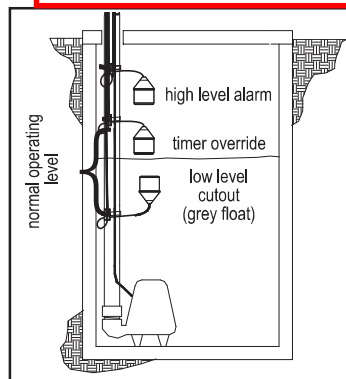

FIGURE 3 - Three float system with timer override
7. If using an optional timer override float, position it at a level in the basin as shown in **Figure 3 & 4**.